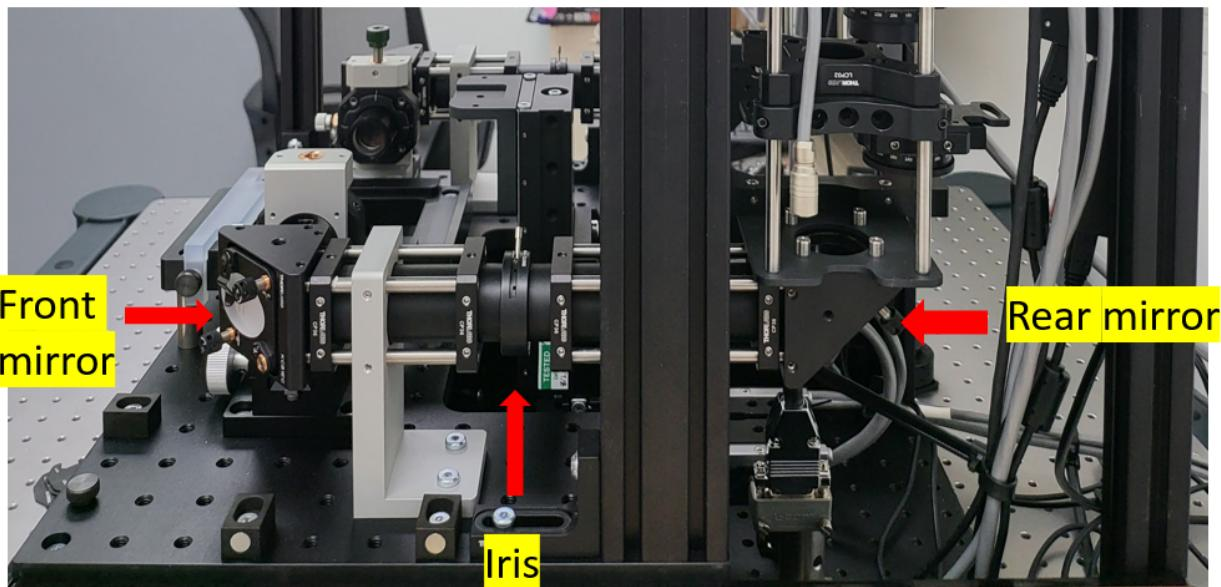

Figure 1. Side view of illumination arm.
1. Remove both side panels, so that you are able to see the rear mirrors (see Figure 1 for side view of the illumination arm).